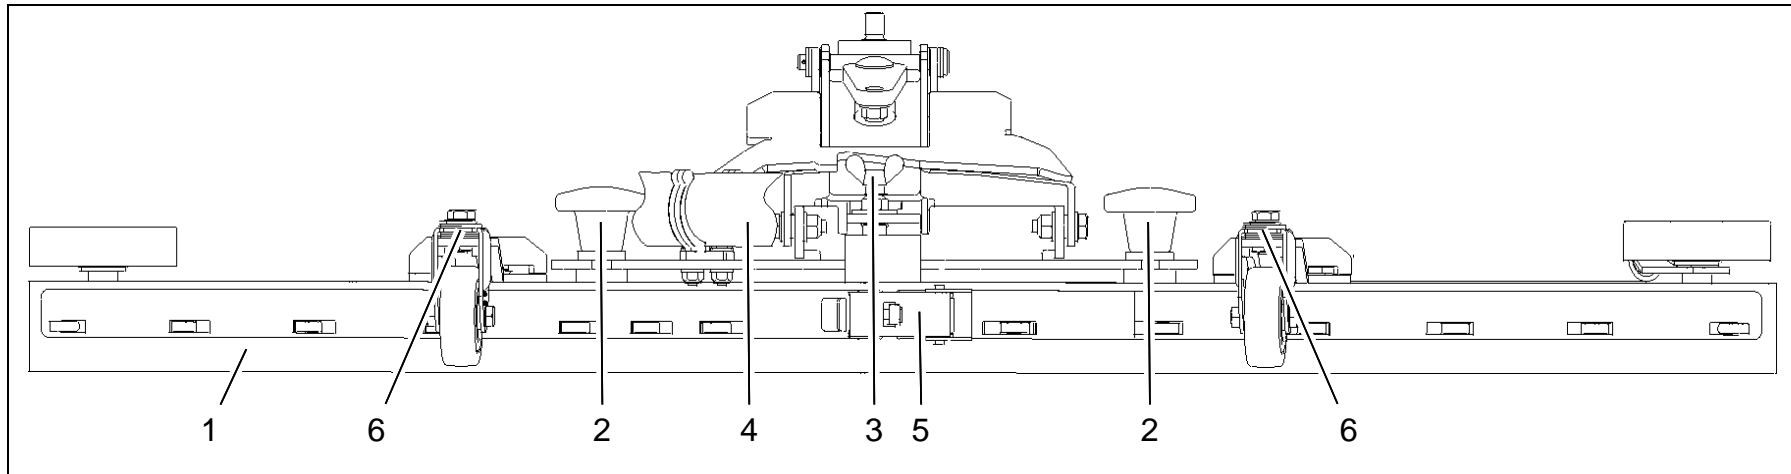

Fig.12
Check the squeegee (Fig. 12/1) daily and clean as necessary.
To clean it lift up the squeegee, pull off the suction hose (Fig. 12/4), loosen the two star-shaped knobs (Fig. 12/2) and remove the squeegee.
Check the inner and outer squeegee blades on the squeegee (Fig. 12/1) weekly for signs of wear. The squeegee blades can be used fourfold by turning them.
3. Unlock the fastening device (Fig. 12/5) and remove the outer squeegee blade. Turn the squeegee blade or install a new one. Change the inner squeegee blade in the same way.
2. Loosen the counter nut on the adjusting screw (Fig. 12/3) and adjust the squeegee using the adjusting screw so that the ends of the squeegee blades have contact with the floor.